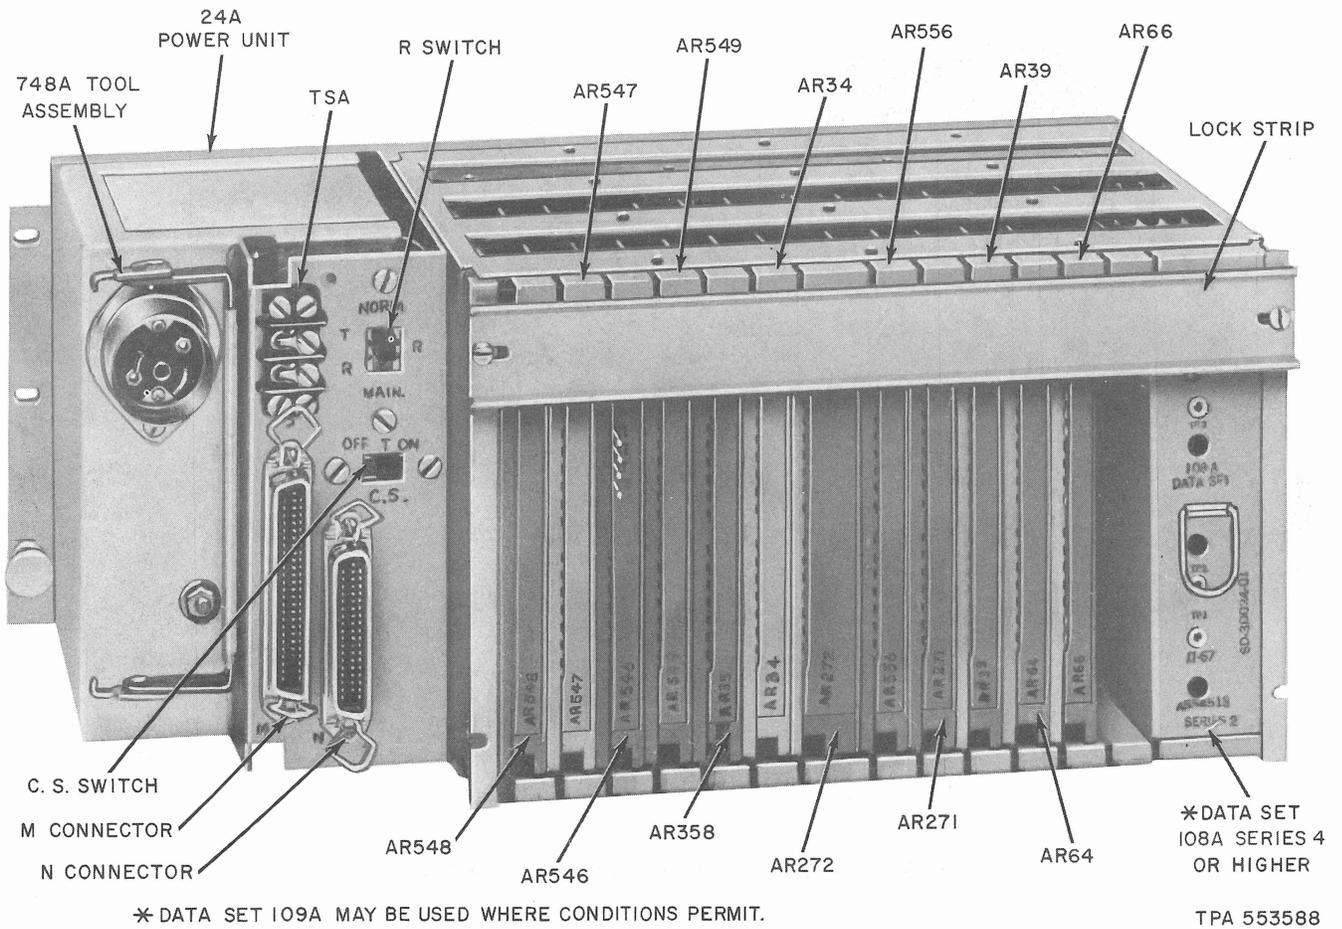

Fig. 2—DAS 820B6—Location of Circuit Packs and Components
**2.04** Verify that the proper circuit packs (CP) are installed in DAS 820B6 (Fig. 2), and that the R (data set loop-back) switch is in the NORM position and the CS (carrier squelch) switch is positioned properly according to the service order and/or worksheet.
**2.06** Using the 748A tool assembly (card-extracting tool), remove AR272 CP (Fig. 2) as follows.